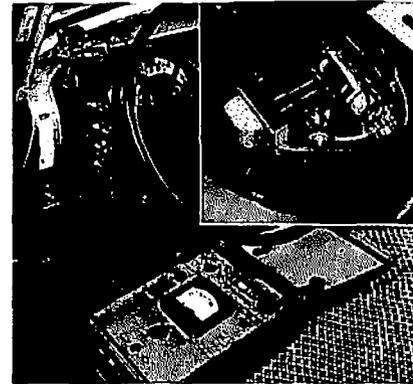

Figure 4
- 2 Lift off cover of Phototube Unit and remove outer lens (do not remove amber filter). Replace lens with Test Lamp (see Fig. 4).